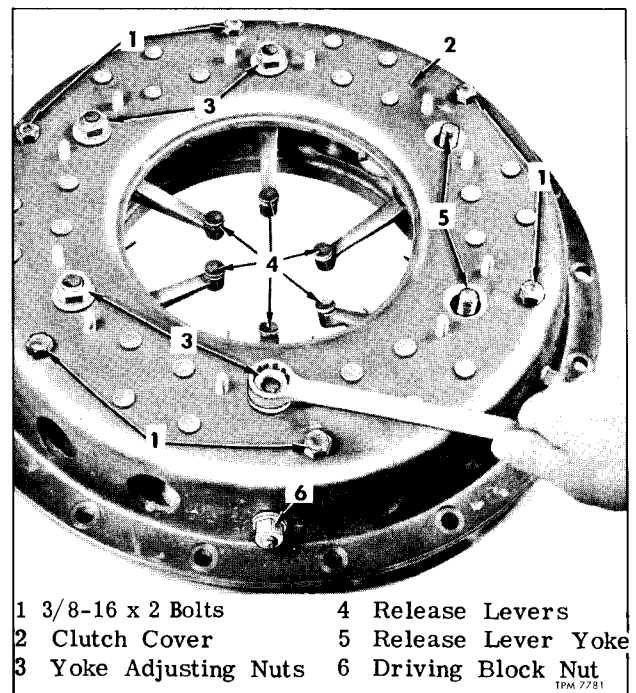

Figure 14—Yoke Adjusting Nut Removal
1. Remove nuts, washers, and thrust plate (29) used to lock each adjusting nut (28).
2. Remove adjusting nuts (fig. 14) from yokes. Hold-down bolts (3/8-16 x 2") will hold springs in compressed position while removing adjusting nuts.
3. Mark cover (12) and pressure plate (9) so that correct relative position will be known when reassembling; then remove six bolts (1, fig. 14), turning screws alternately and in gradual stages until spring pressure between cover and plate has been relieved. Lift clutch cover (12) off the pressure plate assembly.
6. Thread adjusting nuts (28) onto yokes (30) so that end of yoke is approximately flush with top of nut. Refer to figure 14.
7. Install adjusting nut thrust plates (29), but do not tighten plate retaining nuts until release lever height has been adjusted.
4. Remove six hold-down bolts, then turn yoke adjusting nuts (fig. 14) to bring each lever height to 3.635 inches measured from friction surface on flywheel plate to crown of lever thrust button.